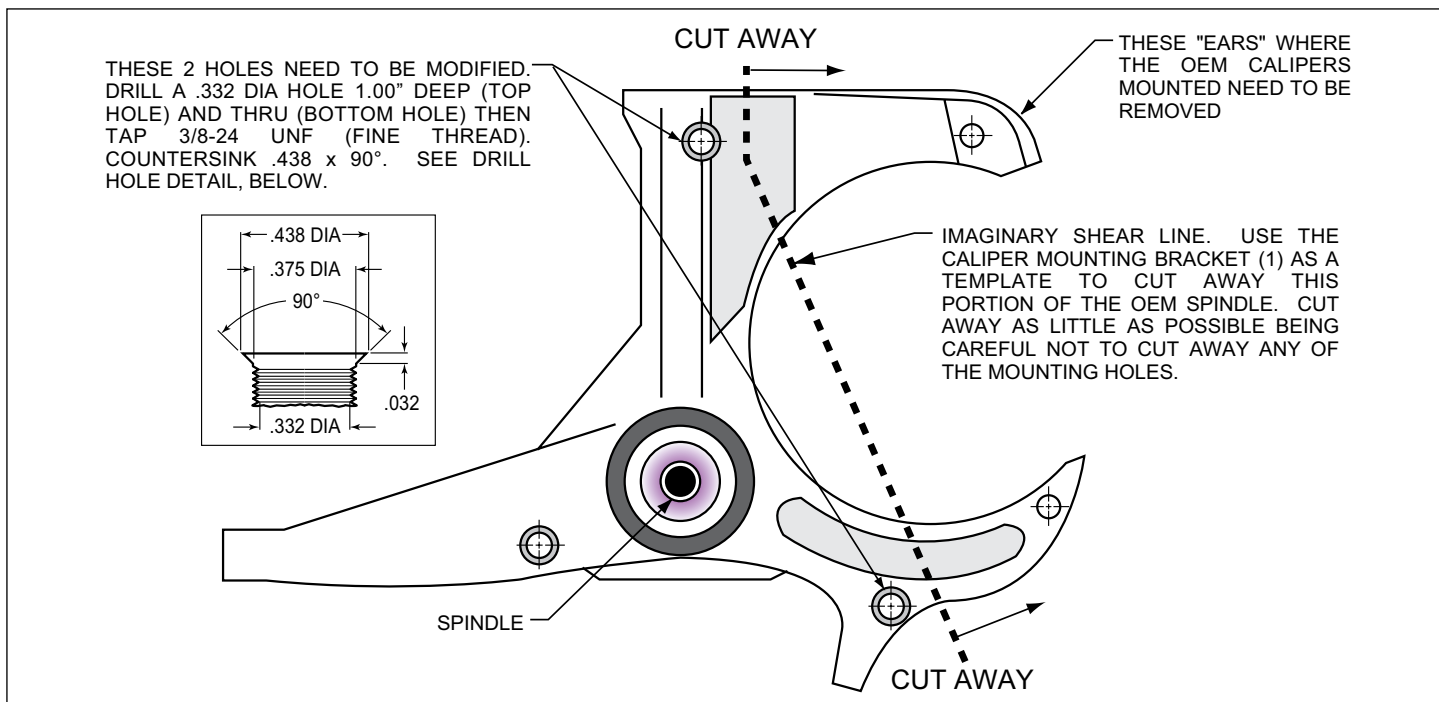

Figure 1. Steering Arm / Spindle Modifications
**NOTE:** These modifications should be performed by a qualified machinist and completed before assembly of the Wilwood disc brake kit begins. Refer to Figure 1 as necessary (numbers in parenthesis refer to the parts list). Only one view of the steering arm/spindle is shown, but the modifications need to be performed on both steering arm/spindles.
The two OEM holes that will be used to mount the caliper mounting bracket (1) need to be modified. Drill a .332” diameter hole, 1.00” deep (top hole), and thru (bottom hole), Figure 1, then tap 3/8-24 UNF (fine thread). Countersink the holes to .438” x 90°. The “ears” that protrude to form a “C” shape need to be removed to facilitate the installation of the Wilwood kit. Using the bracket as a template, mark two cut marks on the steering arm. Remove as little as necessary from the “C” shape, being careful not to cut away any of the mounting holes required to bolt on the bracket.